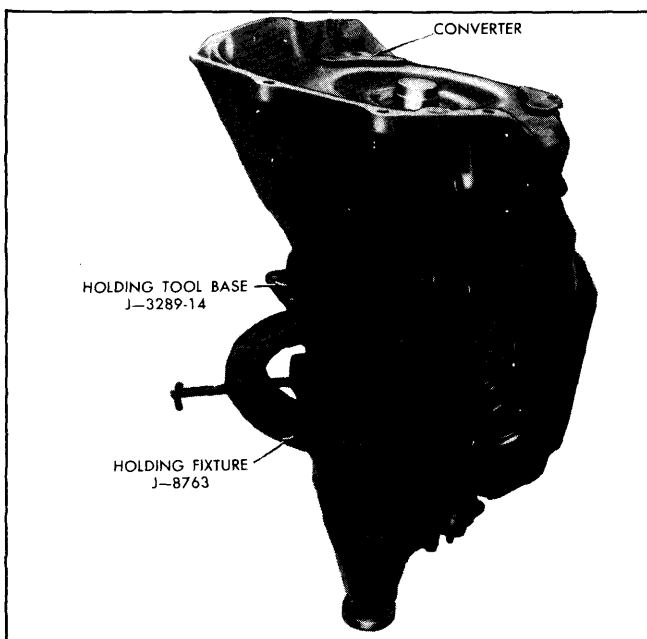

Fig. 7-10—Transmission in Holding Fixture
1. Install Holding Fixture J-8763-01 on transmission and place into Holding Tool Base J-3289-14 with converter facing up. (Fig. 7-10)